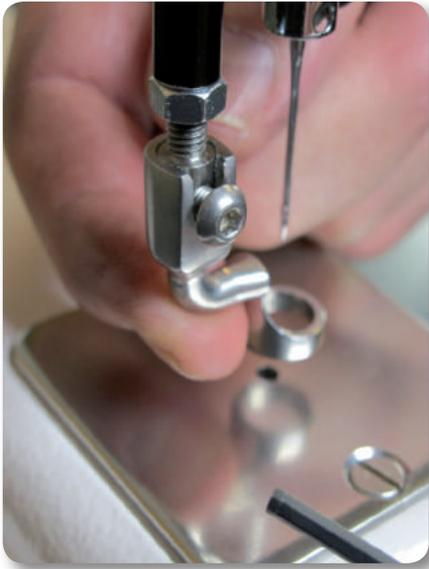

Figure 8
2. Slide the desired foot onto the mount (figure 8). Note that the opening on the side of the foot is lined up with the screw hole. Push the Foot up as far as it will go.